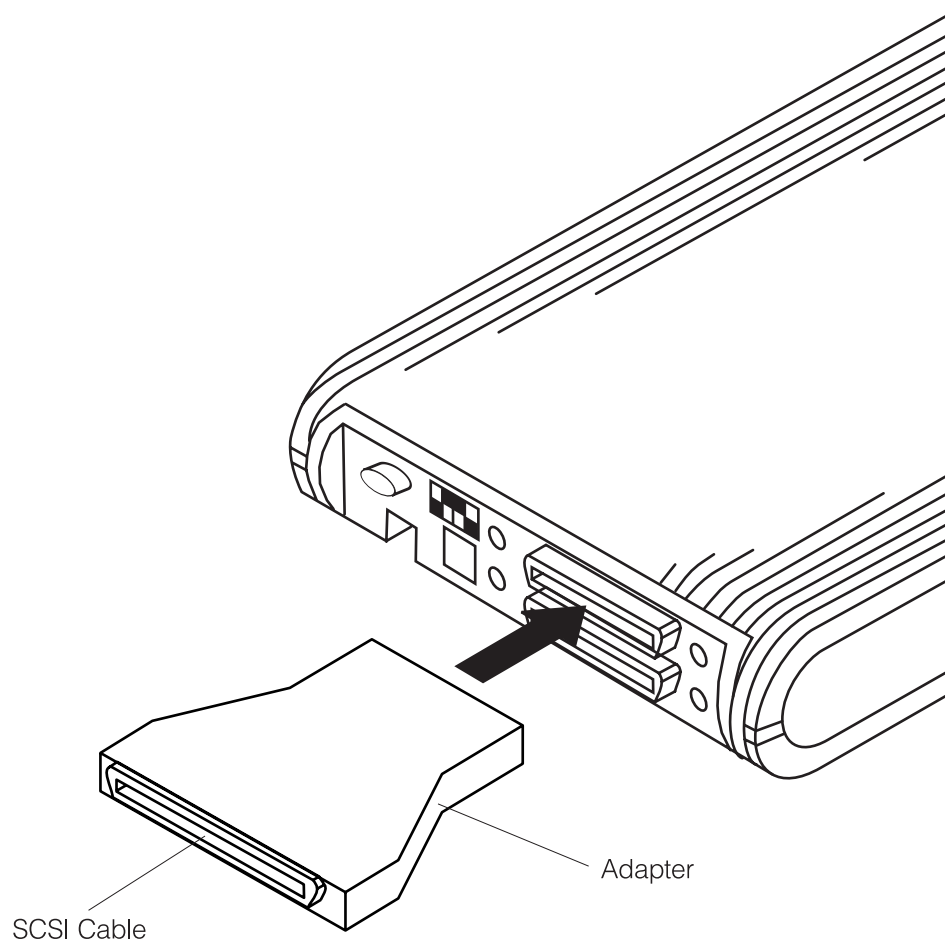

Figure 4. Reconnecting the Signal Cable
- \_\_\_ 11. At the rear of the optical disk drive unit, attach the SCSI signal cable that you removed in Step 1 on page 5 to the adapter as shown in Figure 4.